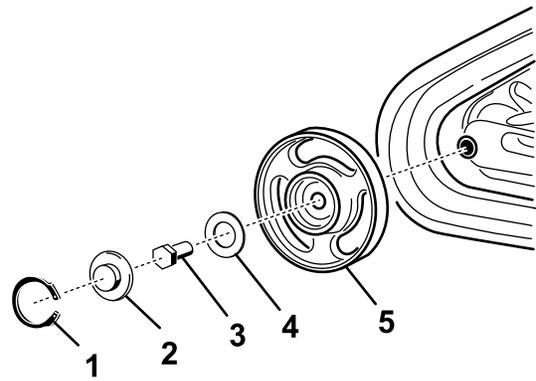

**Figure 57**
6. Push the front road wheel rearward as far as it can go (Figure 57).
8. When the track is off the road wheel, remove it from the machine (Figure 57).
9. Beginning at the drive wheel, coil the new track around the wheel, ensuring that the lugs on the track fit between the spacers on the wheel (Figure 57).
10. Push the track under and between the rear and center road wheels (Figure 57).